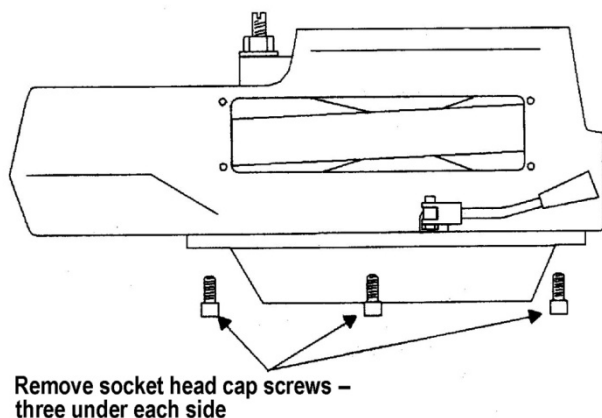

Figure 32
3. Remove six cap screws and remove the upper housing (Figure 32).
4. Remove the vari-speed belt (ref. 4).
5. Install the new vari-speed belt (ref. 4) on the driven hub (ref. 44).